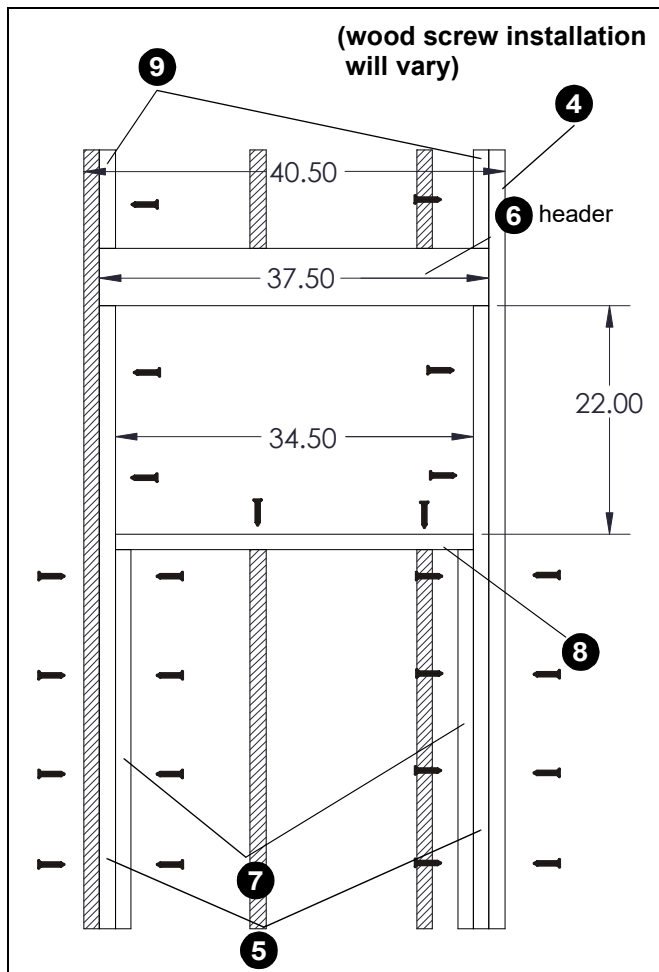

Figure 2
4. Add new stud (floor to ceiling) with outer edge 40 1/2" to the right of left edge of far left stud. (See Figure 2)
5. Add support framing inside far left stud and added stud from the floor to the lower edge of header. Use #10 x 2 1/2" countersunk wood screws (not provided) as needed to secure. (See Figure 2)
6. Install 2" x 6" header 37 1/2" long from inside edge of left stud to inside edge of new stud. Use #10 x 2 1/2" countersunk wood screws (not provided) as needed to secure. (See Figure 2)
7. Add support framing inside support framing added in Step 5 from the floor to the lower edge of horizontal framing. Use #10 x 2 1/2" countersunk wood screws (not provided) as needed to secure. (See Figure 2)
8. Install 34 1/2" long horizontal framing inside support framing added in Step 5. Use #10 x 2 1/2" countersunk wood screws (not provided) as needed to secure to wood studs. (See Figure 2)
9. Install two blocks from top of header to ceiling along far left stud and new stud. Use #10 x 2 1/2" countersunk wood screws (not provided) as needed to secure to wood studs. (See Figure 2)